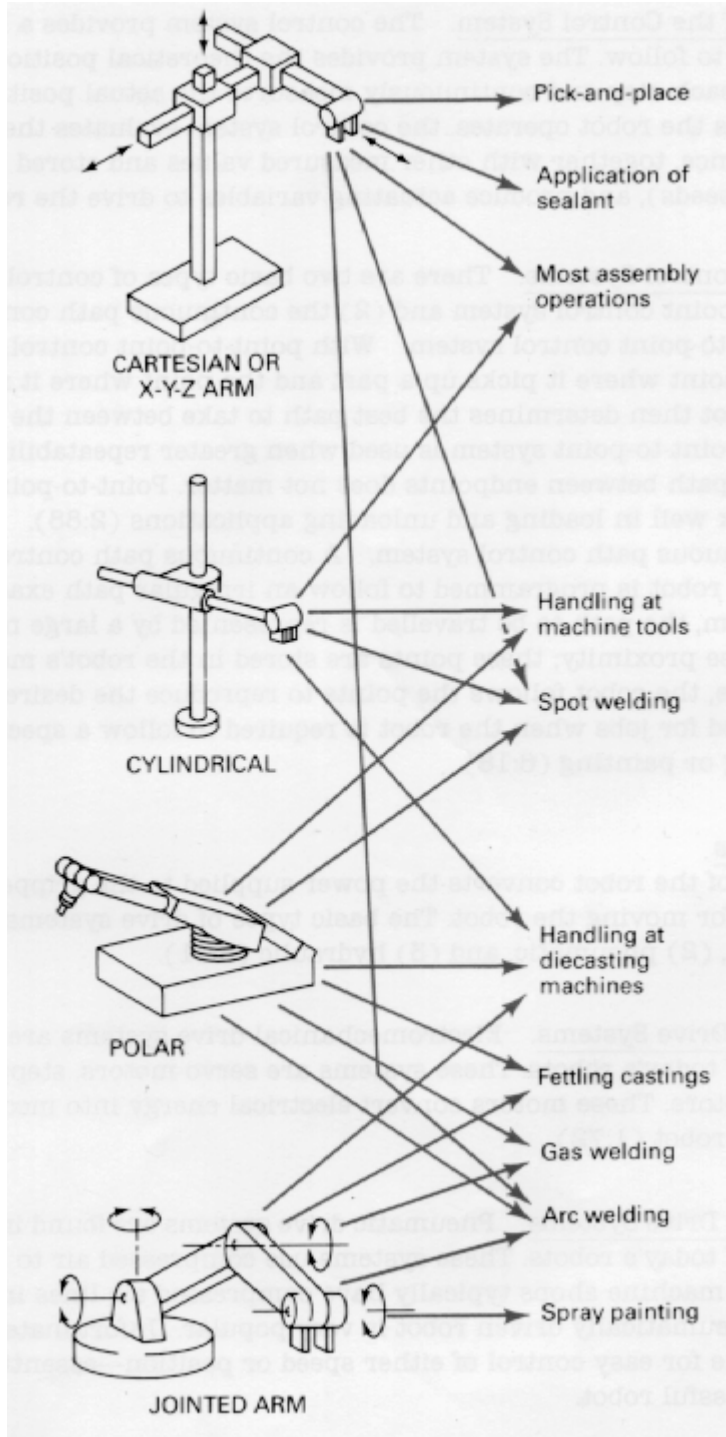

Figure 1. Four basic types of robot configurations and their factory applications.
Kinematics refer to the spatial arrangement, according to the sequence and structure, of the axes of movement in relation to each other. There are four basic types of movement that an industrial robot may have: (1) cartesian, (2) cylindrical, (3) polar, and (4) jointed-arm. Figure 1 illustrates these four types of movement and their applications.